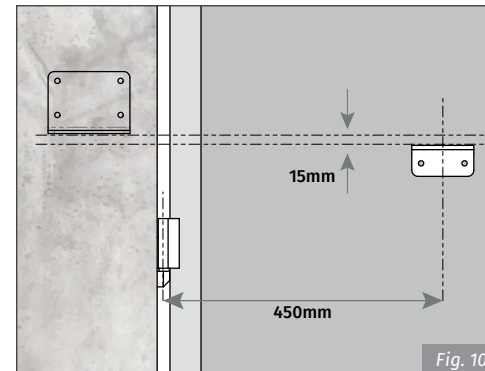

Fig. 10
- 3 • Attach the front support to the gate leaf, following the dimensions of **Fig. 10**. • 450mm from the gate hinge and 15mm below the motor support.